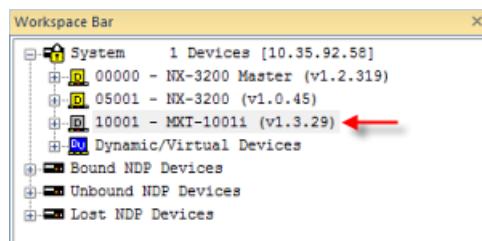

FIG. 133 NetLinx Studio Online Tree (MXT-1001 selected)
2. Under *System*, select a G5 panel for the firmware update (FIG. 133):